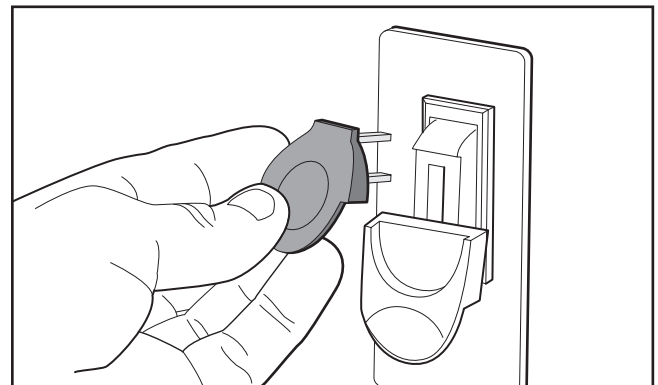

Figure 14. Removing switch disabling key from paddle switch.
6. Remove switch disabling key, as shown in **Figure 14**. Try to start machine with paddle switch. The machine should not start.